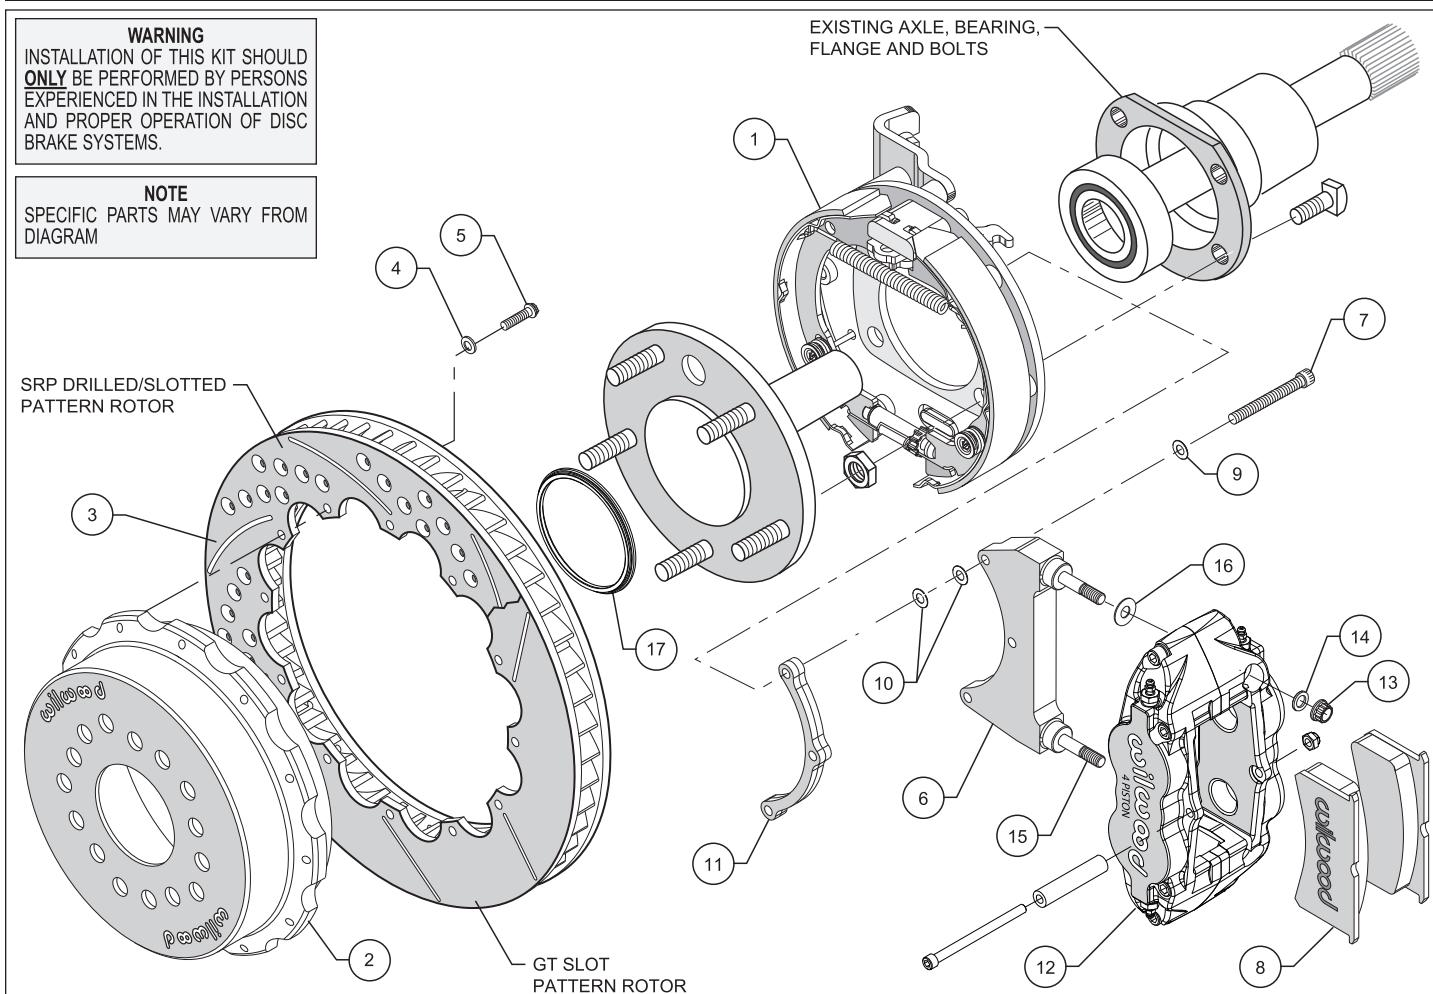
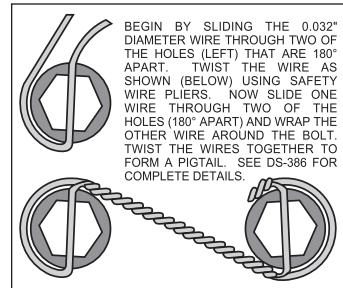

Figure 1. Typical Installation Configuration
Figure 4. Safety Wire Diagram
Assembly Instructions (numbers in parenthesis refer to the parts list and Figure 1 on the preceding pages): **CAUTION:** All mounting bolts must fully engage threaded holes.
- Orient the bracket assembly (1), as shown in Figure 1, and mount to the axle housing flange using the Original Equipment Manufacturer (OEM) bolts and nuts, Figure 1. Ensure that the bracket assembly backing plate fits flush against the axle housing flange. Apply red Loctite® 271 to the OEM bolt threads and torque to OEM specifications.
- Orient the rotor (3) and the hat (2) as shown in Figure 1 and Photo 1. Attach rotor to hat using bolts (5) and washers (4). Using an alternating sequence, apply red Loctite® 271 to the threads, and torque to 155 in-lbs. For an added measure of security, the bolts may be safety wired using standard 0.032 inch diameter stainless steel safety wire as shown in Figure 4. Please refer to Wilwood's data sheet DS-386 (available at www.wilwood.com/Pdf/DataSheets/ds386.pdf) for complete safety wire installation instructions.
• Slide the rotor registration adapter (17) onto the axle register on the axle flange with the smaller O.D. facing outward, Figure 1 and Photo 2. Align the correct hole pattern in the rotor/hat (2/3) with the stud pattern on the axle flange and slide into place, Figure 1. **NOTE:** The hat must fit flush against the axle flange or excessive rotor run out may result. Install three lug nuts (finger tight) to keep the rotor/hat assembly in place while continuing with the installation. **NOTE:** Some OEM and after market axles come with stud sizes larger than 0.50" diameter. Verify stud size and have a qualified machine shop drill the bolt circle of the hat/rotor to the correct stud size, if necessary.
• **NOTE:** Please reference the caution statement at the beginning of the assembly instructions. The caliper mount bracket assembly (6) should initially be installed with clean, dry threads on the mounting bolts. Orient the bracket as shown in Figure 1 and Photo 3. Attach the bracket using bolts (7), flat washers (9), and spacer (11), Figure 1 and Photo 3. **NOTE:** End of bolt should not exceed inside face of insert. The bracket must tighten squarely against the back side of the bracket kit assembly. Inspect for interference from the axle flange. Initially place two .015" thick shims (10) on each bolt between the bracket (6) and the spacer (11), Figure 1.
• Lubricate the caliper mounting studs (15) with lightweight oil. Initially place one .035" thick shim (16) on each stud between the caliper and the bracket, as shown in Figure 1 and Photo 4. Mount the caliper (12) onto the bracket (6) using lock nuts (13) and washers (14), Figure 1. Temporarily tighten the lock nuts and view the rotor through the top opening of the caliper. The rotor should be centered in the caliper, Photo 5. If not, adjust by adding or subtracting shims (10) between the bracket and the spacer (11). Always use the same amount of shims on each of the three mounting bolts. Once the caliper alignment is correct, remove the bracket mounting bolts one at a time, apply red Loctite® 271 to the threads, and torque to 180 in-lb.